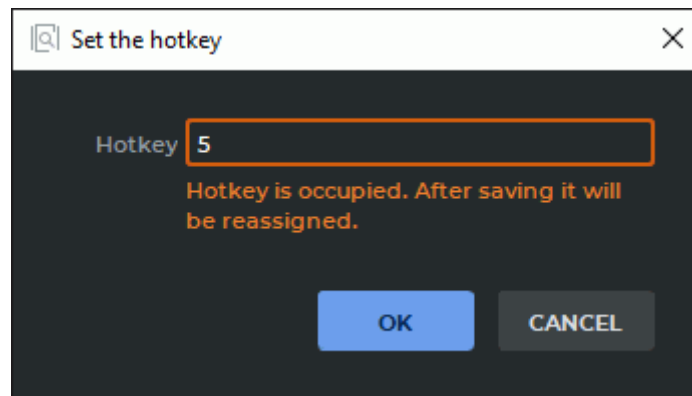

Figure 2.23: Setting up a hotkey
4. In the **Set the hotkey** dialog box that pops up (Fig. 2.23), provide a value in the **Hotkey** field. The permissible values are: